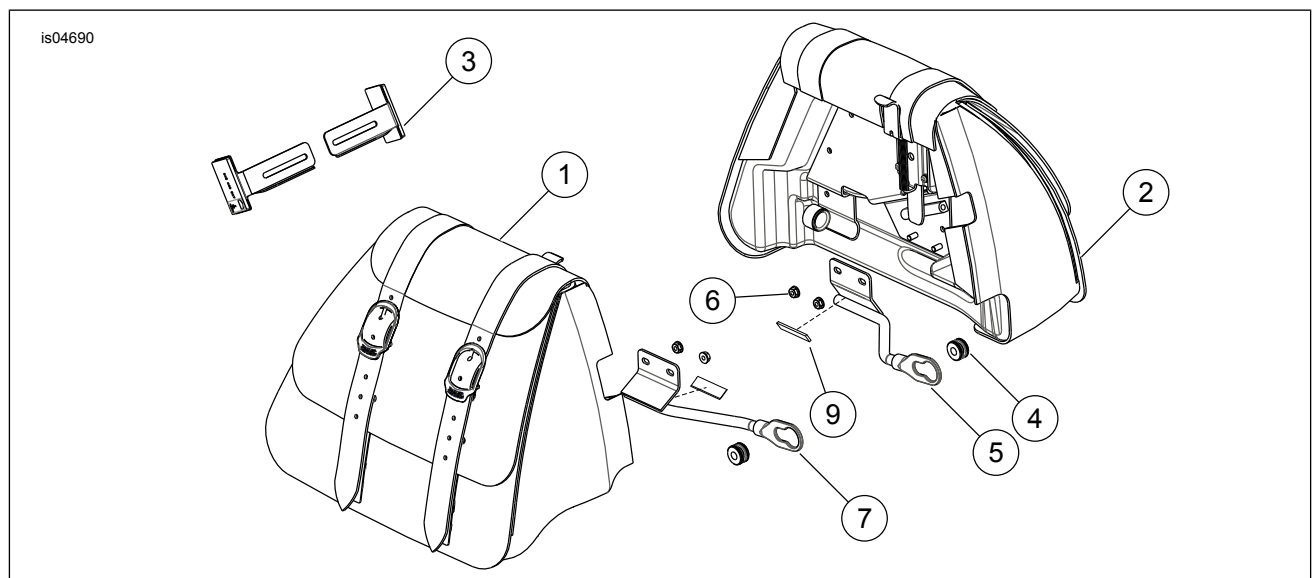

Figure 4. Service Parts: FXCW and FXCWC Saddlebag Kit
See Figure 4 and Table 2.
- For All Models:** See Figure 4. Install saddlebag support (5) to saddlebag (2) with flange nuts (6). Tighten nuts hand-tight at this time. Repeat for saddlebag support (7) and saddlebag (1). Install rubber isolator tape (9) on saddlebag support as shown.
- Verify that the saddlebag support is seated in the docking point (8) groove and the tongue is fully engage in the striker keeper.
7. See Figure 4. Once proper alignment of saddlebag assembly has been achieved, tighten flange nuts (6) to 7–11 N·m (60–96 in-lbs). If necessary, mark the position of the assembly and remove the saddlebag to tighten the flange nuts.